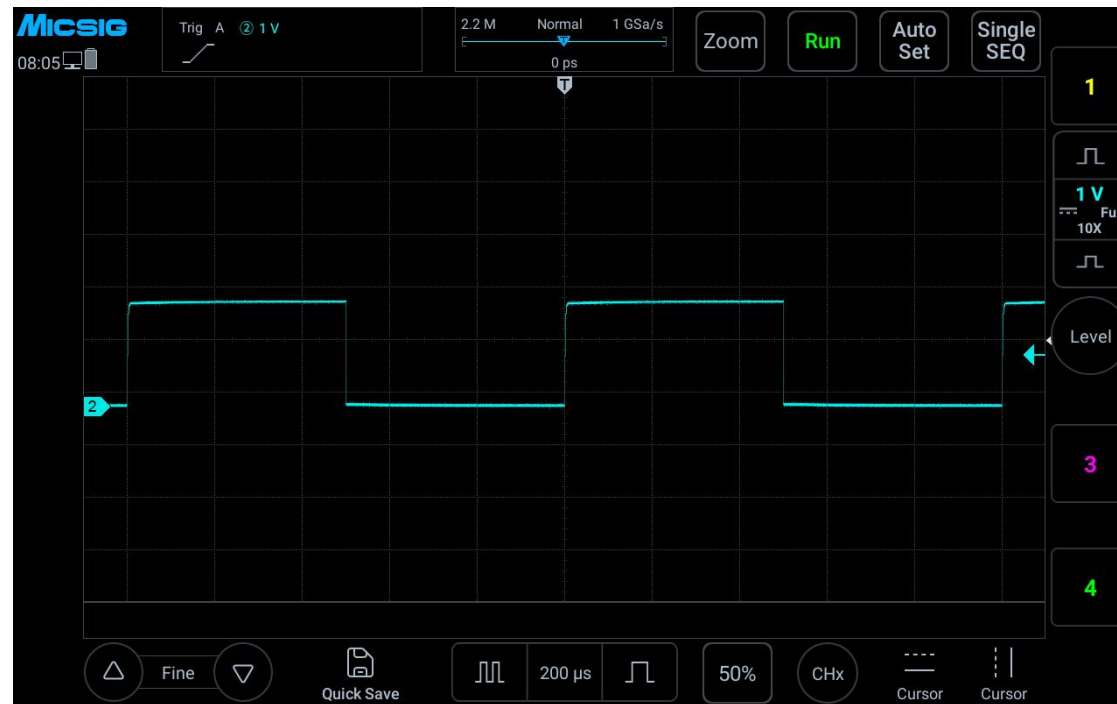

Figure 2-12 Probe Compensation
- 5) Tap Auto button or manually adjust the waveform vertical sensitivity and horizontal time base. Observe the waveform. As shown in Figure 2-12.